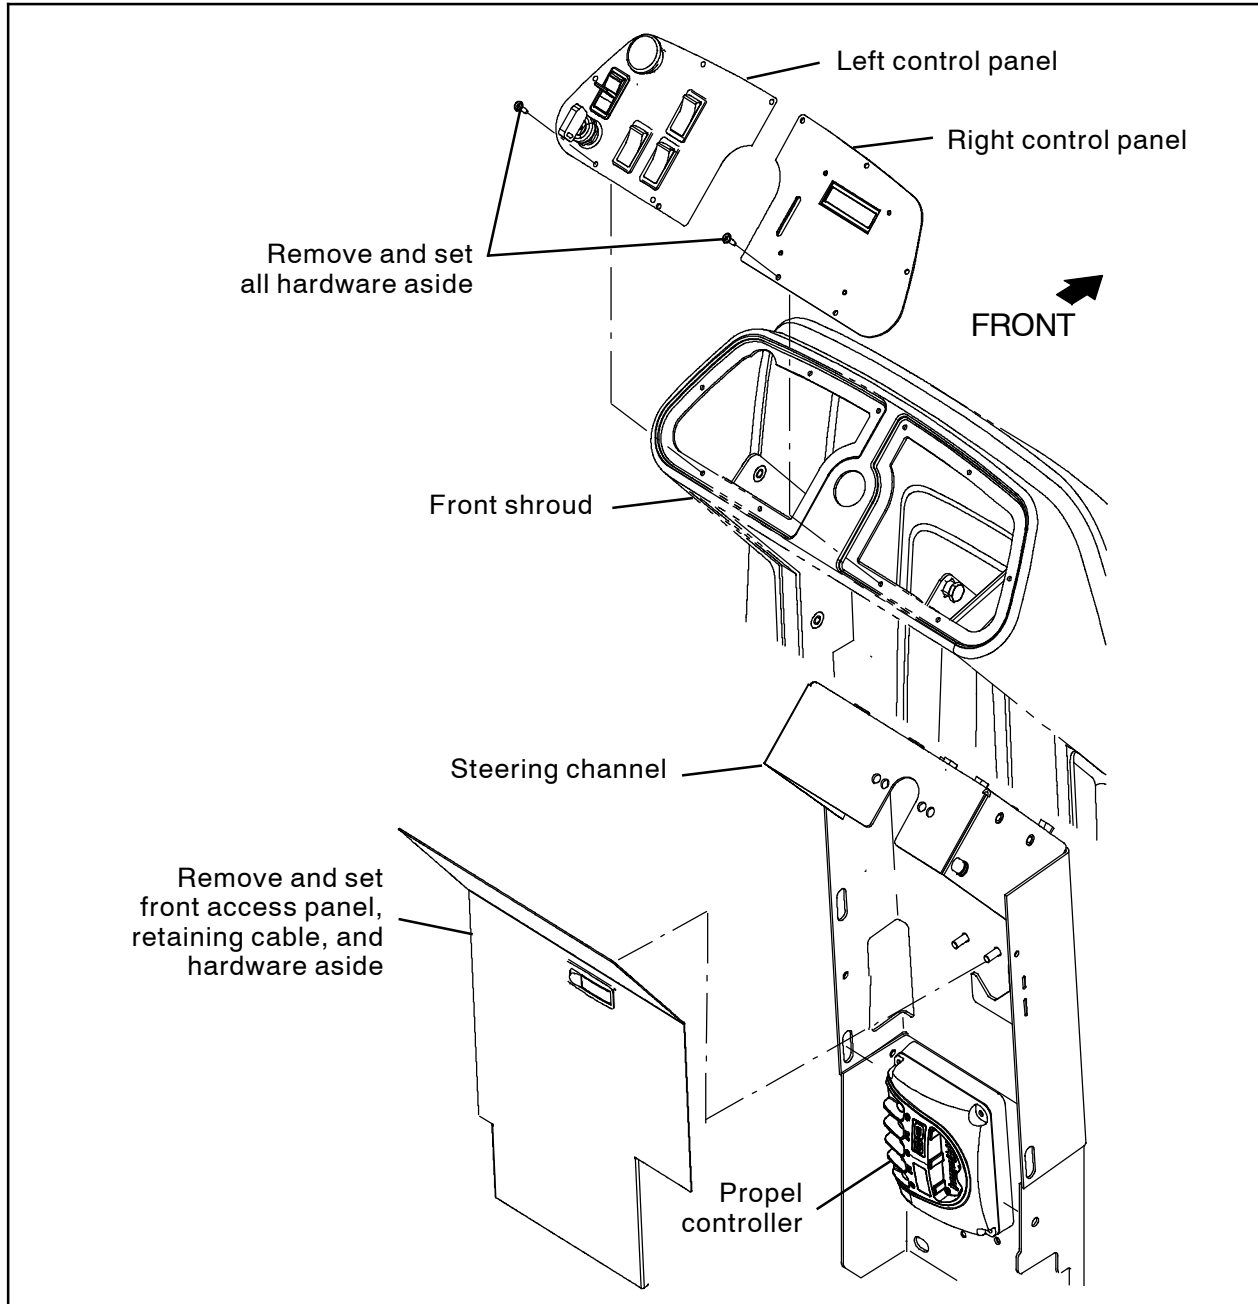

FIG. 23
2. Remove the front access panel and the hardware securing the retaining cable to the machine. Set the front access panel/retaining cable and hardware side. (Fig. 23)
3. Remove the hardware securing both the right control panel and left control panel to the front shroud. Set the hardware aside. (Fig. 23)
4. Carefully pull both the right control panel and the left control panel from the front shroud. **Do Not** break any cable/wire connections when removing either control panel. (Fig. 23)